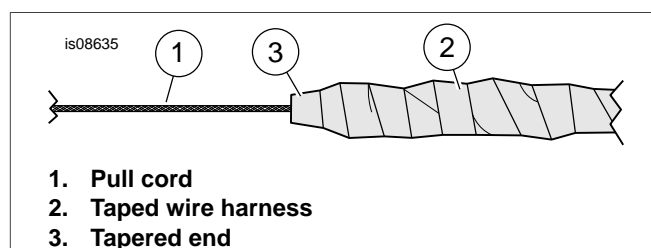

Figure 2. Pull Cord and Wire Harness
- See Figure 2. String a suitable cord (1) through the handlebar. Tie the cord to the wire harness. Wrap tape
(2) over the harness and pins. Tape should come to a taper (3) and be flexible to ease pulling through the handlebar.